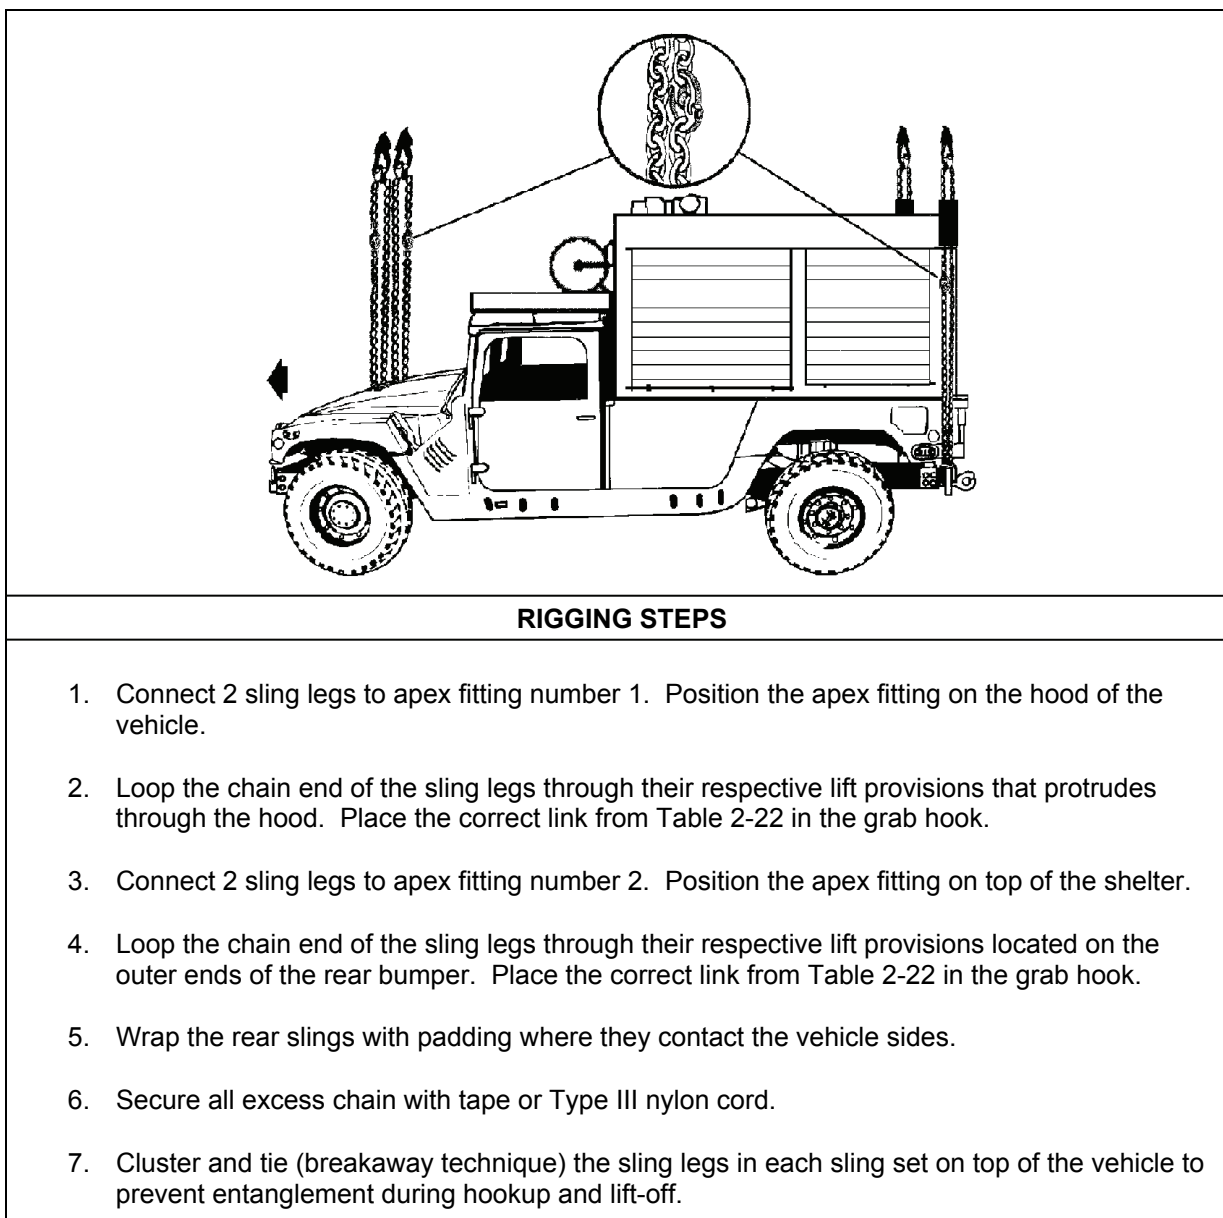

Figure 2-21. M1097 with Contact Maintenance Truck, Heavy
- **Rigging.** Rig the load according to the steps in Figure 2-21.